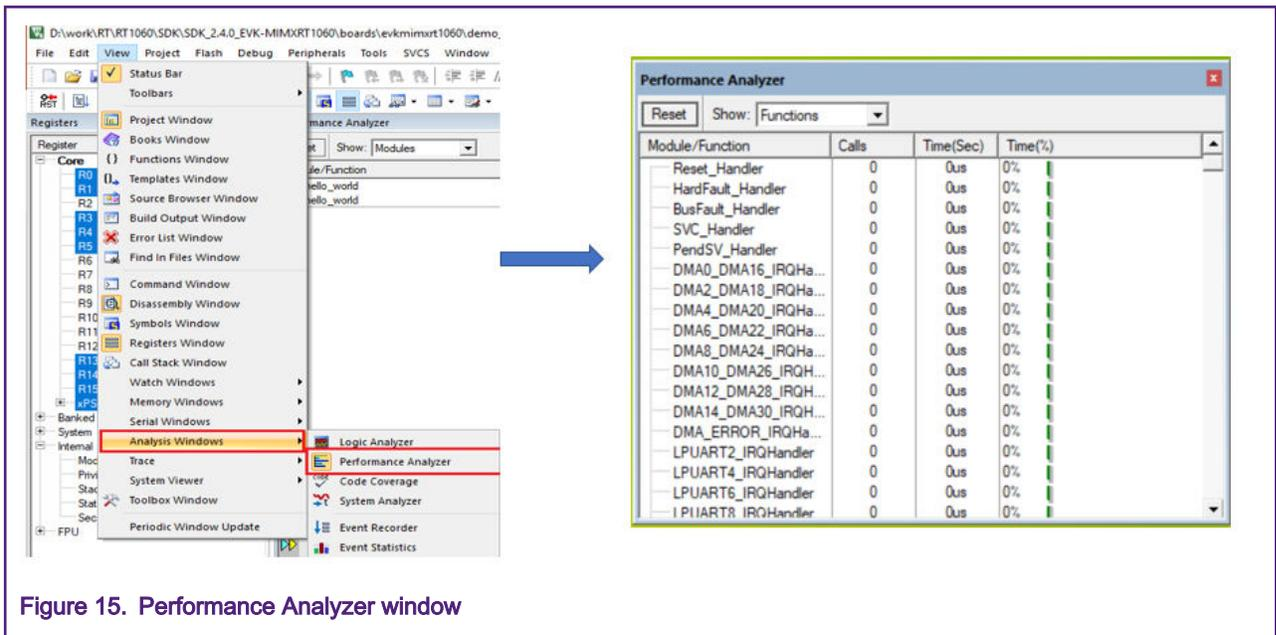

Figure 15. Performance Analyzer window
- Figure 15 shows the Performance Analyze window.